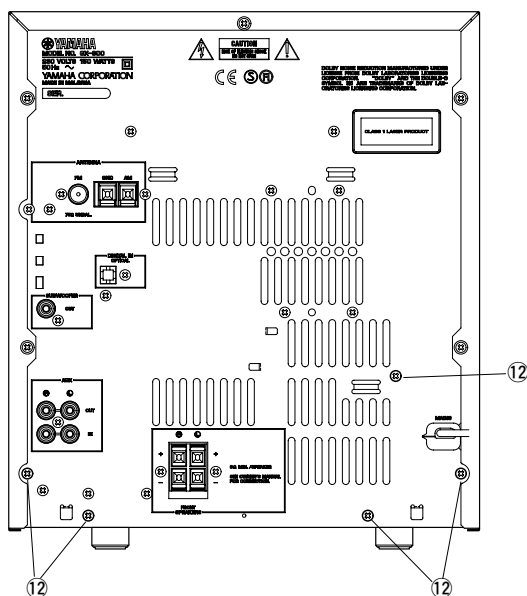

Fig. 7
- e. Remove 5 screws (12) in Fig. 7.